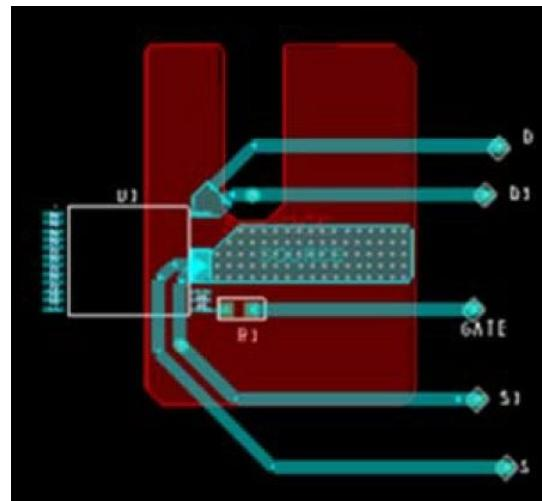

Figure 39. Thermal Resistance Test Conditions for GaN-based INN3379C and INN3370C.
Testing performed on custom thermal test PCB as shown in Figure 39. The test board consists of 2 layers of 2 oz. Cu with the InSOP package mounted to the top surface and connected to a bottom layer Cu heat sinking area of 550 mm2.
4. Please see Figure 39.